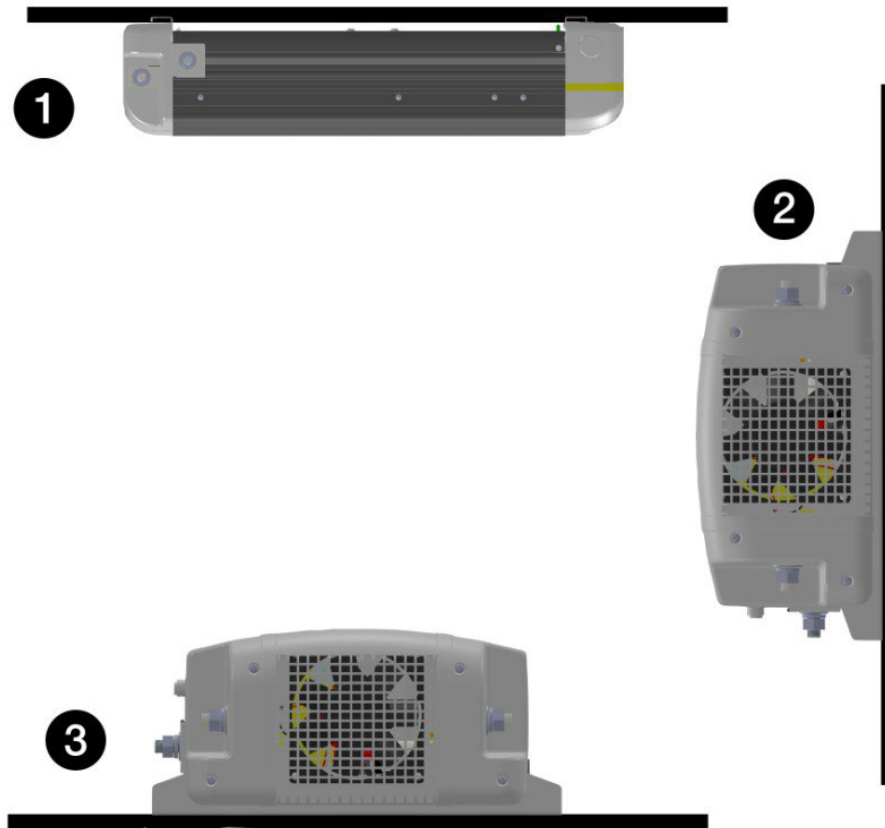

Figure 6. Approved mounting orientation
2. Select the mounting location (see illustration Figure 6. One of the following approved orientations is required:
- Under horizontal surface (1)
- Horizontal position on vertical surface (2)
- On horizontal surface (3)